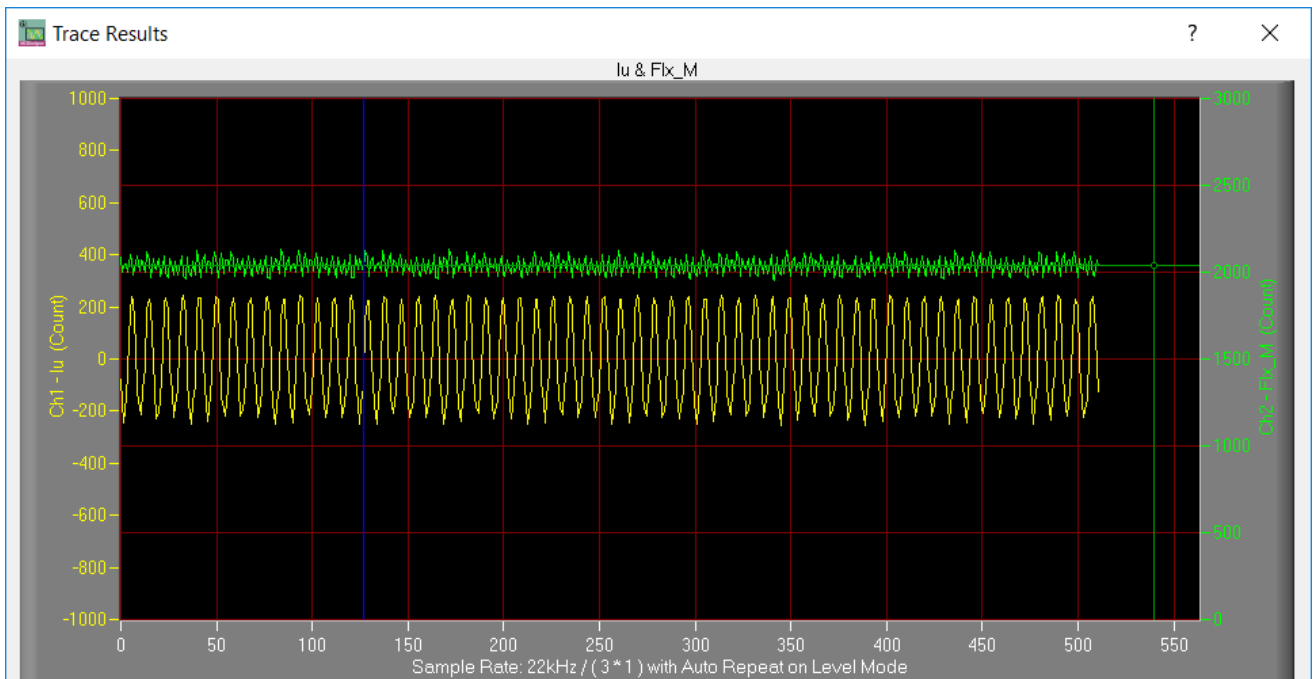

Figure 14 Trace waveform for lu & Flx-M at 50% speed
13. Set target speed to about 50% of MAX speed, start “Iu & Flx_M” trace with “Auto Repeat On Level,” see Figure 14. Flx_M is better within the range of 2000~2500 (rated value is 2048), and MUST be steady and DC-like.